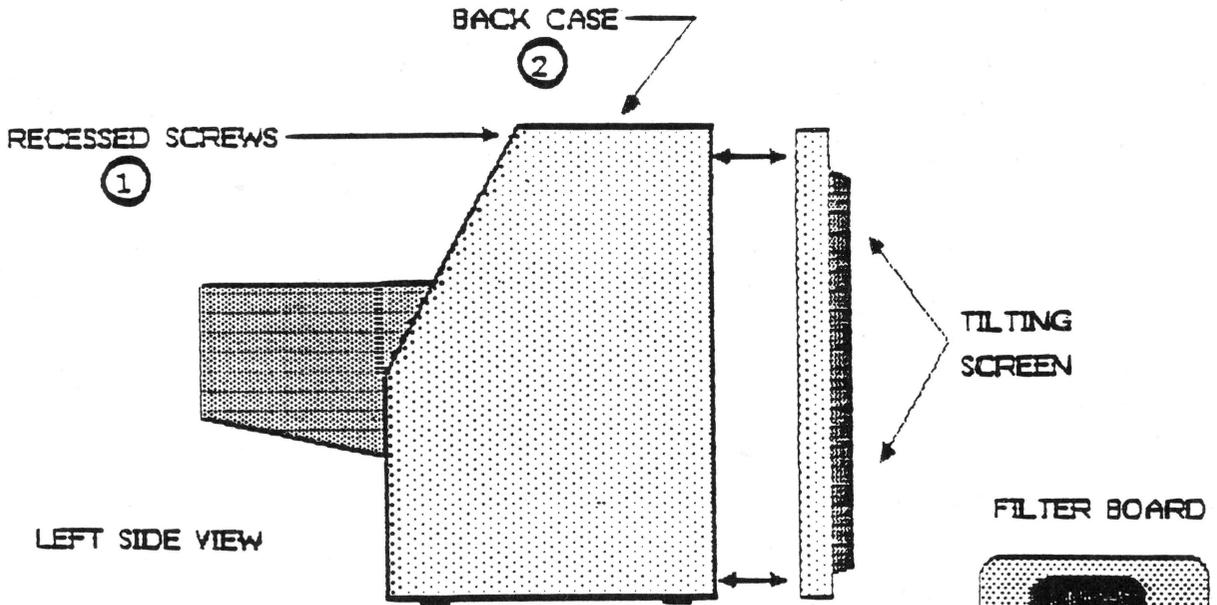

Figure 1
6. **NEVER TOUCH THE ANODE.** Normally the anode has a connector (Figure 1, #2) plugged into it, but when a CRT is replaced, this connector is removed, exposing the anode. The anode can maintain a charge of several thousand volts (even after the power is off).